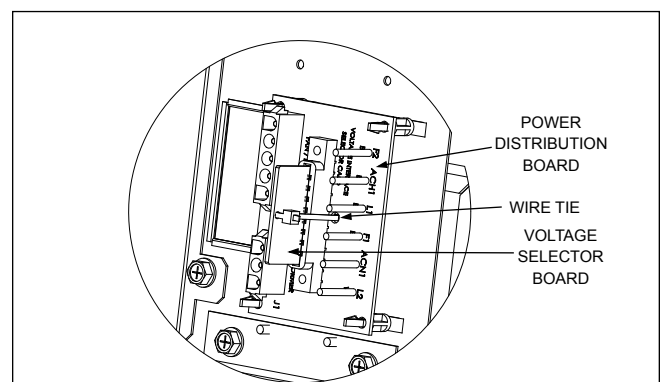

Figure 23. Power Distribution Board With Voltage Selector Board Installed for 240 VAC
2. Cut the plastic wire tie that is holding the voltage selector board in place and discard the wire tie. Unplug the voltage selector board from the receptacle. See Figure 23.
**NOTE** The voltage selector board is keyed so that it will fit in only one (1) direction for either selected voltage (either side of the board).